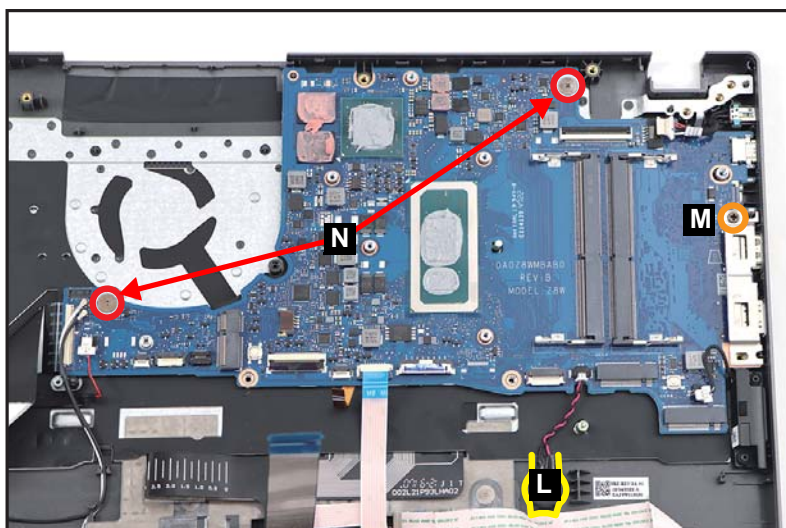

Figure 1-38. Mainboard Removal
11. Pry to detach the adhesive tape underneath the RTC battery (L) (Figure 1-38).
12. Remove one (1) screw (M) securing the right IO bracket. Then remove another two (2) screws (N) securing the mainboard (Figure 1-38).